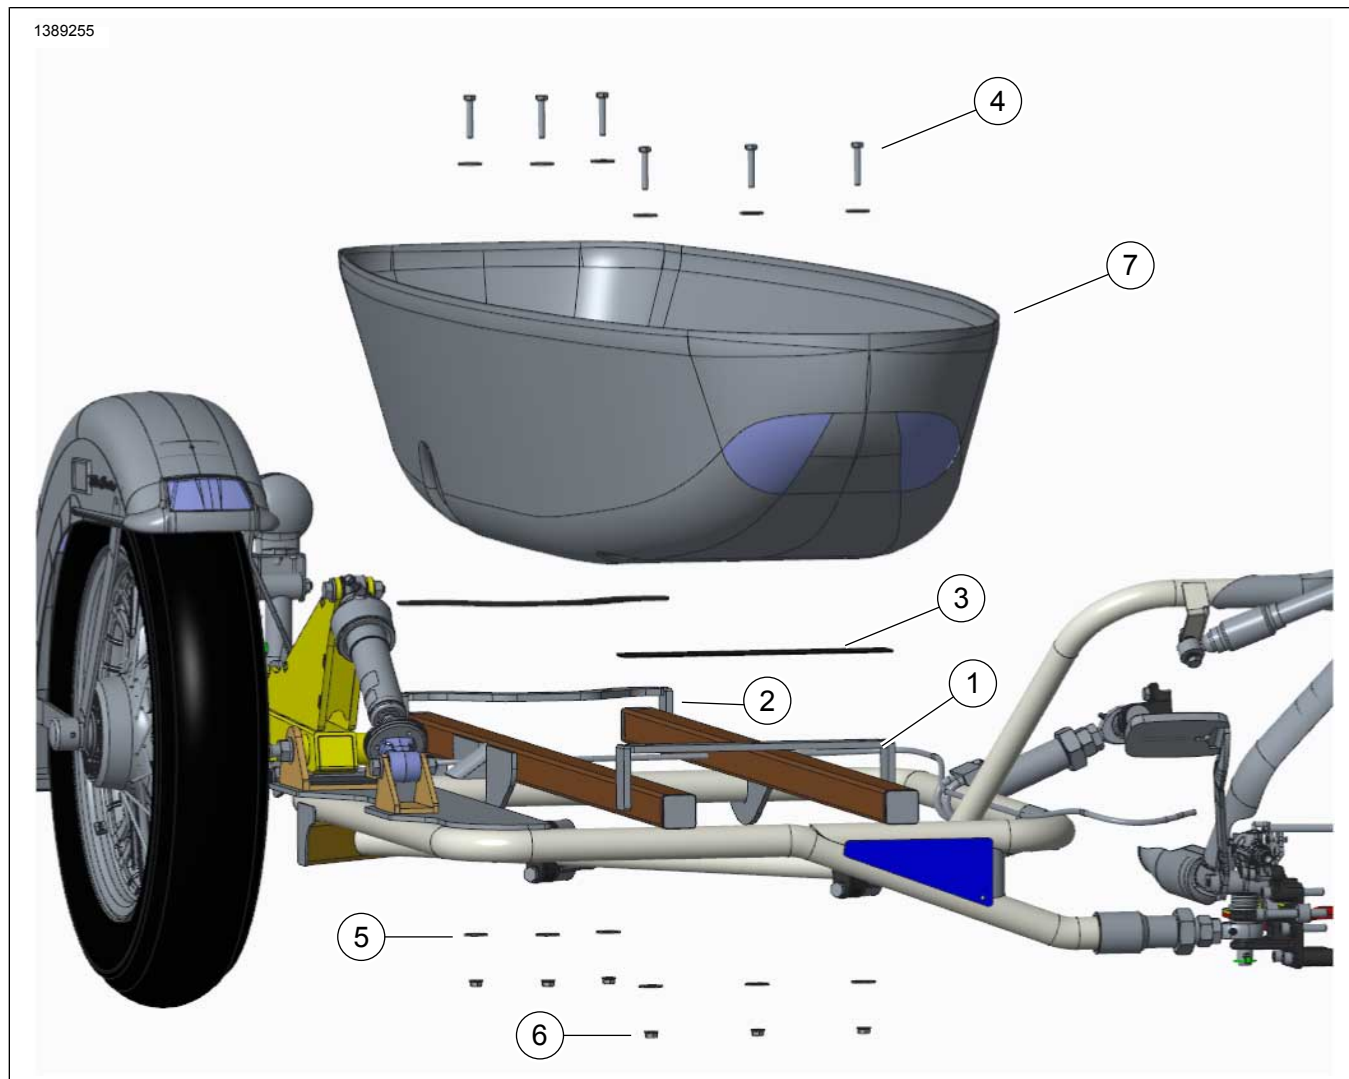

Figure 2-66. Sidecar Body
1. See Figure 2-66. Ensure tub mounting rails (1,2) are clean. Remove adhesive cover from rubber padding (3) and secure to tub rails.
2. Secure front of tub (7) to front rail (1) using bolts (4) washers (5) and nuts (6). Do not tighten.
3. Secure rear of tub (7) to front rail (1) using bolts (4) washers (5) and nuts (6). To not tighten.